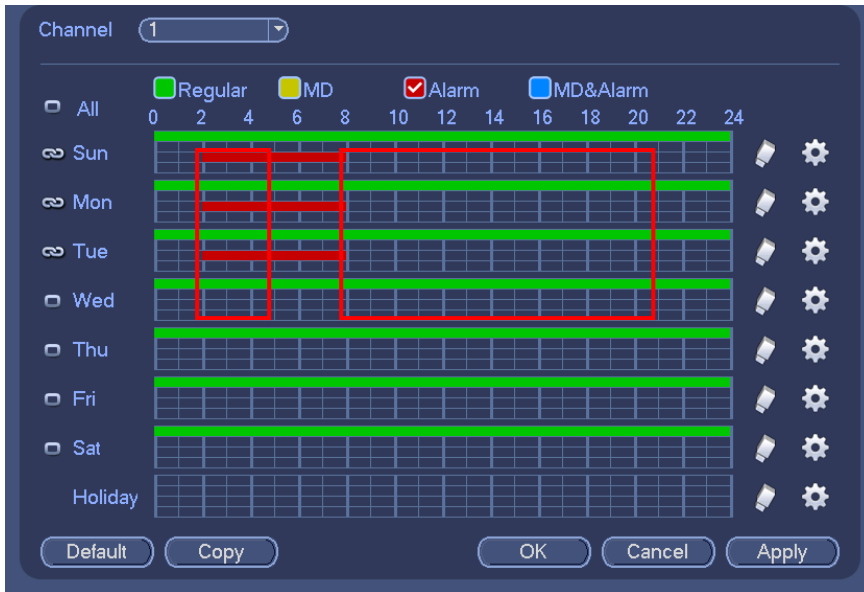

Figure 4-101
- ✧ Draw manually to set record period. There are six periods in one day. See Figure 4-101.